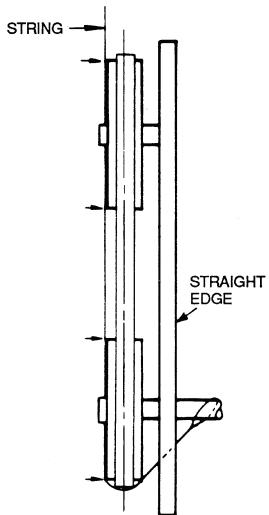

Fig. 9 — Sheave Alignment
1. To check the location of the fixed sheaves on the shafts, use a straightedge or a piece of string. If the sheaves are properly aligned, the string will touch them at the points indicated by the arrows in Fig. 9. Rotate each sheave a half revolution to determine whether the sheave is wobbly or the drive shaft is bent. Correct any misalignment.